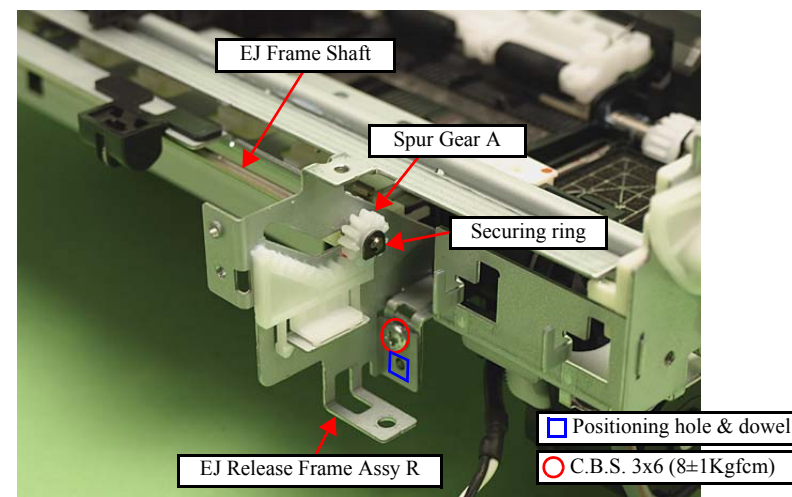

Figure 4-110. Removing the EJ Release Frame Assy R
1. Remove the securing ring from the EJ Frame Shaft and remove the Spur Gear A. (See Fig. 4-110.)
- Align the dowel (x1) of the EJ Release Frame Assy R with the positioning hole (x1) of the Main Frame. (See Fig. 4-110.)